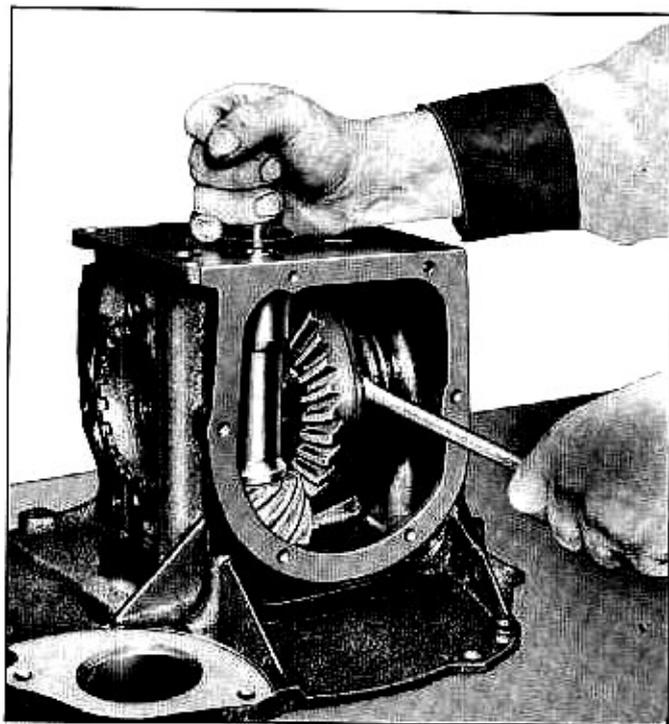

Fig. 12—Developing Contact Pattern
3. While firmly holding the pinion with a rag to form a friction brake, turn the ring gear back and forth with a wrench (fig. 12) on the ring gear mounting bolts until a definite contact pattern is formed.